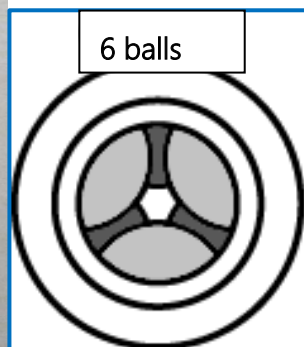

Fig. 1
7. When looking through the nozzle, part of the circumference of six balls protruding into the nozzle's pass-through channel must be visible (Fig.1). The lighter, central gap formed by the configuration of the six balls is to form a hexagon in the pass-through channel, similar to a star with six points. If the six balls are not visible in the grip slider as described above, the grip slider should not be used. Contact the Quality department of Reutlinger GmbH.